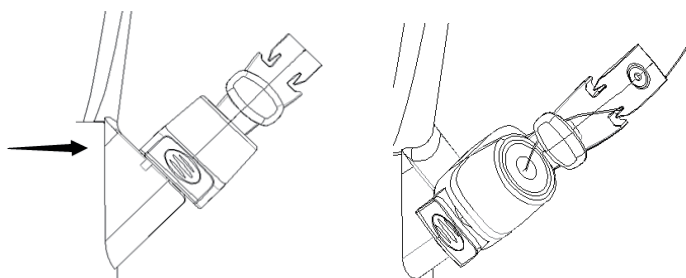

Figure 3
2. Insert the device through the sealing cap, align the device with the endoscope channel inlet and insert slowly in a straight manner. When the device and guide wire enter the predetermined position, the guide wire can be locked in the locking groove and the guide wire is locked (see Figure 3). If necessary, insert the end of the guide wire through the Antiskid Part to fix the guide wire.